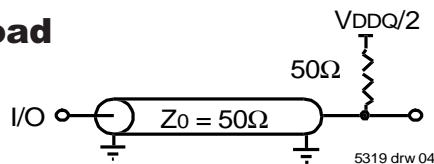

Figure 1. AC Test Load
| Output Load                   | Figure 1              |
3. These parameters are guaranteed with the AC load (Figure 1) by device characterization. They are not production tested.